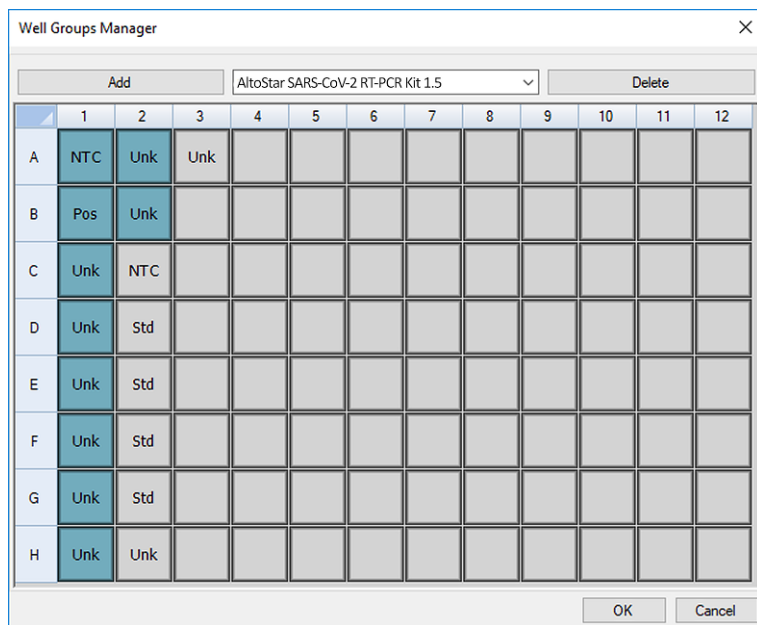

Figure 31: Well Groups Manager dialog
2. In the **Plate Editor** dialog click **Well Groups...** in the tool bar. The **Well Groups Manager** dialog is displayed (see Figure 31).
5. Select all wells in the PCR Plate area that belong to the first assay (see Figure 31). The wells belonging to an individual assay can be identified in the **Plate Editor** dialog by the entry in the **Biological Set** field.